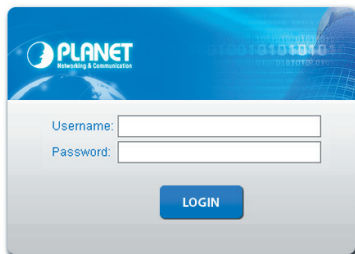

Figure 8-2: Web Login Screen
2. When the following dialog box appears, please enter the default user name and password "**admin**". The login screen in Figure 8-2 appears.